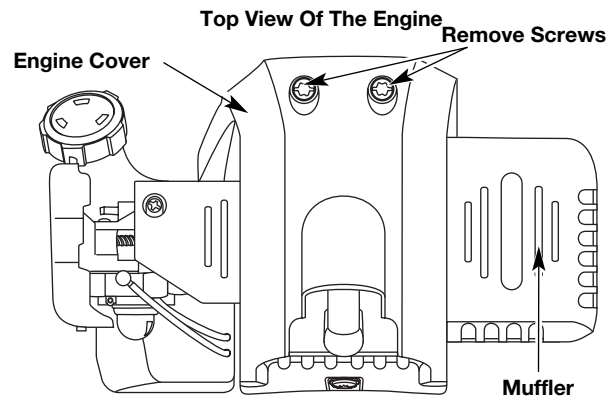

Fig. 31
2. Remove the two (2) screws on top of the engine cover with a Flat-head or T-25 Torx screwdriver (Fig. 31).
6. Remove the engine cover (Fig. 31).